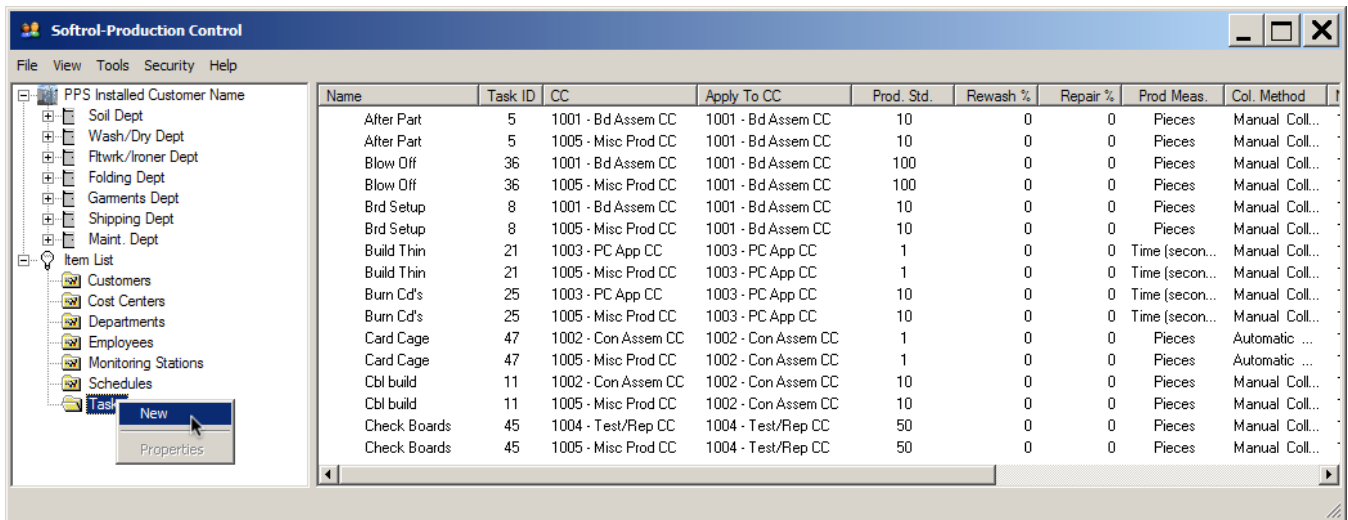

Figure 17. Setup: New Task.
2. Right-click the highlighted **Tasks** folder and select **New** (see Figure 17) to open the *Cost Center Tasks* dialog (see Figure 18).